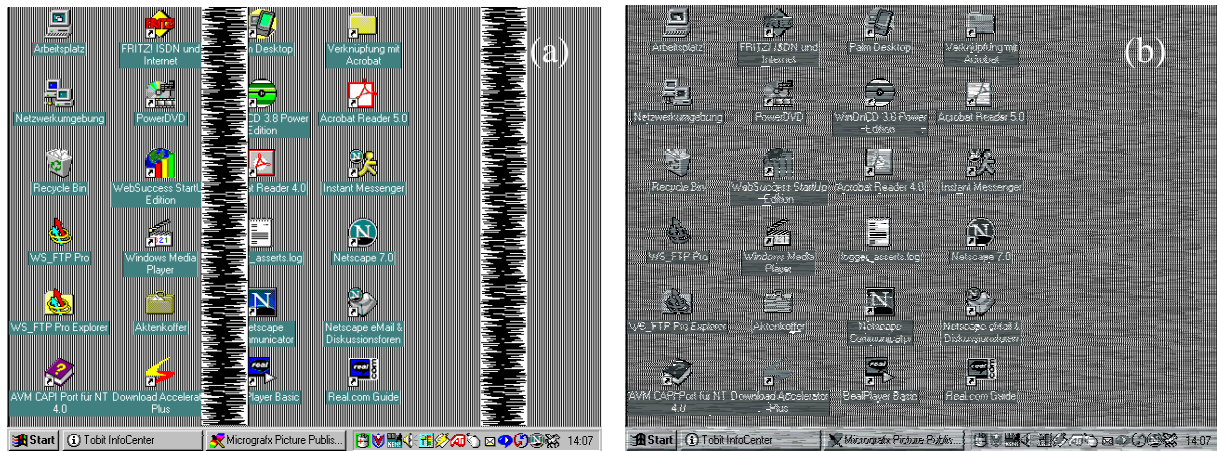

Figure 17 Burst test pattern applied to desktop showing problems with (a) pixel clock setting, (b) pixel phase setting.
1. Display from your graphic source a picture with as much detail as possible. If possible, display a 'burst-pattern' (see Figure 17) - a picture with alternating, 1-pixel wide, black and white, vertical stripes.